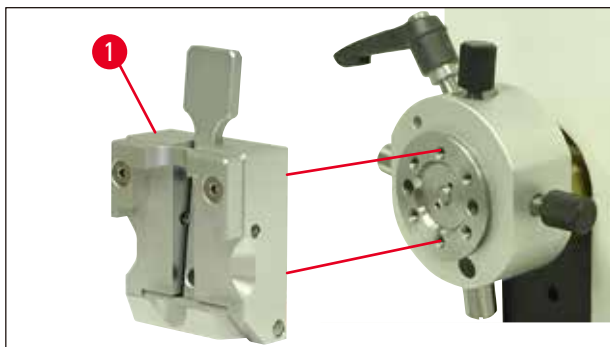

Fig. 11
4. Attach the specimen clamp (→ Fig. 11-1) to the specimen holder fixture as shown (→ Fig. 11) and fasten it using the two screws (→ Fig. 10-4).